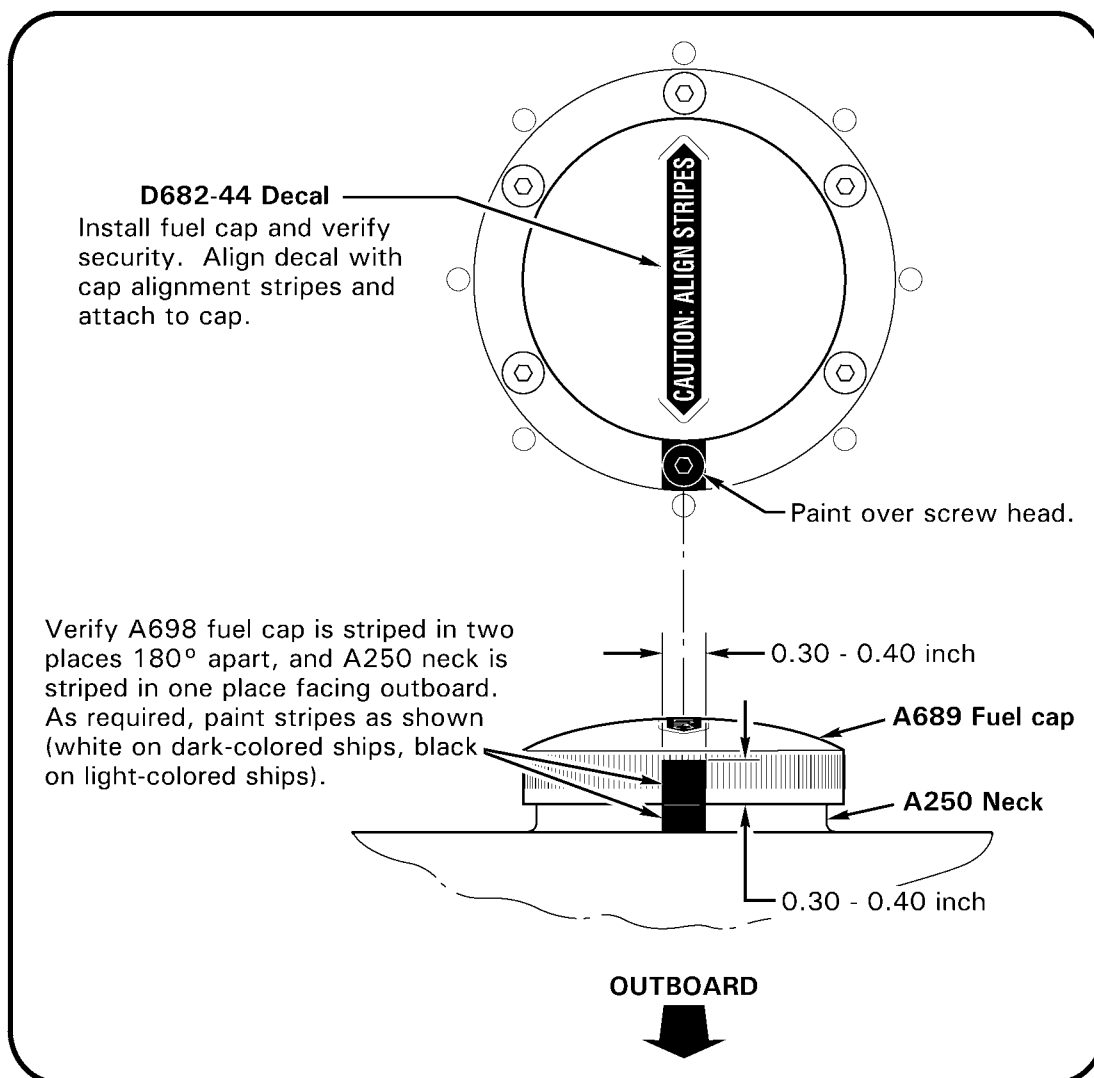

FIGURE 1
1. Refer to Figure 1. Remove A689 fuel cap and inspect condition of cap and gasket. Install fuel cap and verify security. Replace gasket and/or cap if cap is not snug when tightened or visual inspection is not satisfactory.
2. Verify fuel cap is striped in two places 180° apart, and A250 neck is striped in one place facing outboard. If cap or neck is not striped, or if stripes have deteriorated, paint stripes per Figure 1 as follows: